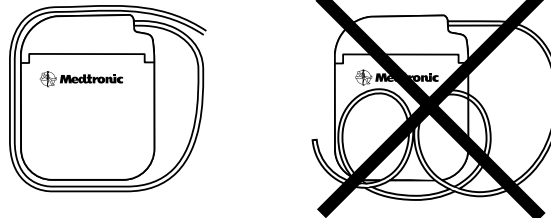

Figure 3. Wrap excess extensions or leads around the perimeter (or behind) the neurostimulator.
- Do not coil excess extensions or leads in front of the neurostimulator. Wrap excess extensions or leads around the perimeter (Figure 3) or behind the neurostimulator to help minimize potential damage during neurostimulator replacement surgery, help minimize potential kinking of the extension/lead, and minimize interference with telemetry and recharge operation.